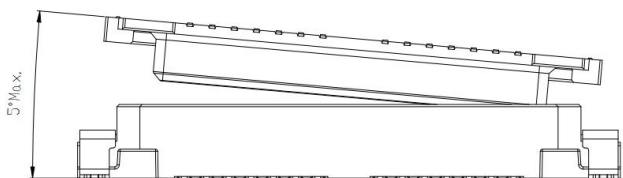
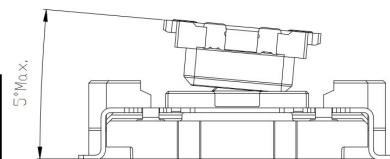

图 1/Fig1
图 2/Fig2
g. 图 1 及图 2 所示指导角度，插入前不可大于此角度（未锁定）；
Guide Angle as shown in figure 1 and figure 2, not greater than this Angle before insertion (not locked)